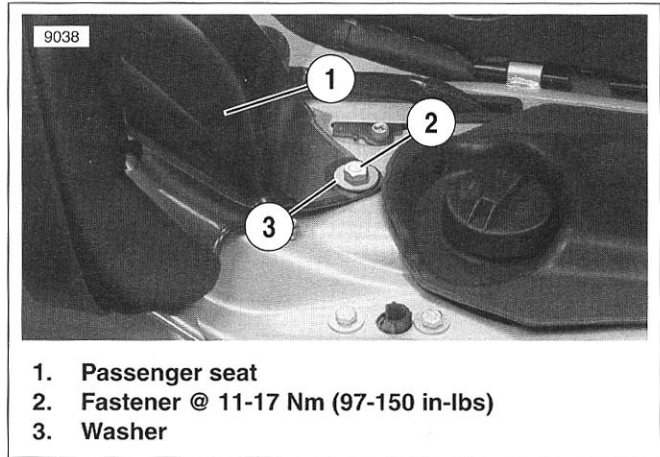

Figure 8-29. Passenger Seat Attachment
4. See Figure 8-29. Remove fastener (2) and washer (3). Slide passenger seat (1) forward slightly to detach it from the mounting tab on the rear of the fender. Then slide seat back and out from underneath seat strap. Remove passenger seat from motorcycle.
3. See Figure 8-29. Slide passenger seat under seat strap and engage mounting tab on the fender into slot in bottom rear of seat. Make sure TSSM wiring harness is not pinched under seat frame.
4. Attach passenger seat to motorcycle with fastener (2) and washer (3). Tighten to 11-17 Nm (97-150 in-lbs).